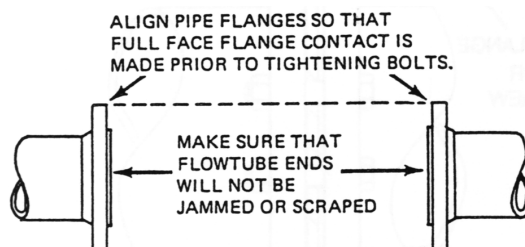
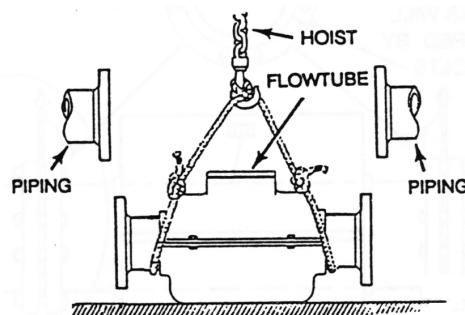

Figure 13. Piping Alignment for Flanged End Flowtube
Figure 14. Hoisting Flowtube into Place
1. Before installing the flowtube, install and adequately support the piping. Adjust the piping and flanges so that the flanges are aligned and parallel with the flowtube flanges when the flowtube is installed. Flanges must **not** be forced into alignment during installation of the flowtube. See Figure 13 for correct alignment of piping. See Figure 14 for correct use of a hoist in installing the flowtube. Also allow for thermal expansion of piping during the operation, as required.
- a. Hoist the flowtube into place (see Figure 14).